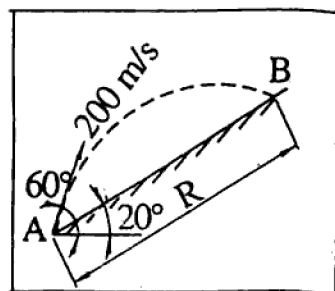

Fig. 5
- b) A projectile is launched with an initial speed of 200 m/s at an angle of 60° (Fig. 5) with respect to the horizontal. Compute the range R as measured up the incline. 8